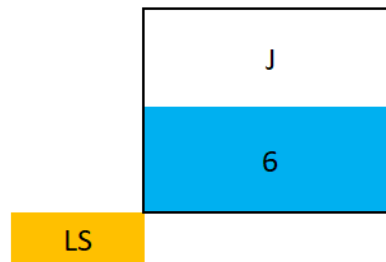

Figure 9. The LF time is positioned outside the bottom right corner of a node
Finally, the node reserved the bottom left corner for the late start (LS) – see Figure 9.